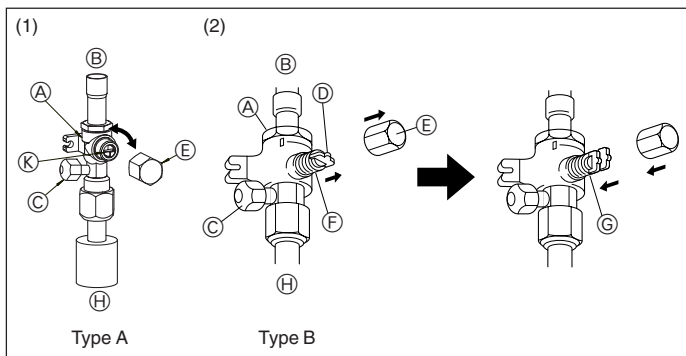
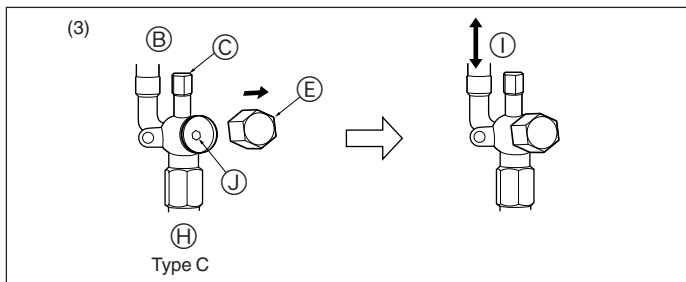

Fig. 5-7
Fig. 5-8
(1) Type A (Fig. 5-7)
- ① Remove the cap, then turn one-quarter rotation counter-clockwise with a flat-bladed screwdriver to complete open.
- ② Check that the valves are fully open, then return the cap to its original state and tighten it down.
(2) Type B (Fig. 5-7)
- ① Remove the cap, pull the handle toward you and rotate 1/4 turn in a counterclockwise direction to open.
- ② Make sure that the stop valve is open completely, push in the handle and rotate the cap back to its original position.
(3) Type C (Fig. 5-8)
- ① Remove the cap and turn the valve rod counterclockwise as far as it will go with the use of a 4 mm hexagonal wrench. Stop turning when it hits the stopper.
- ② Make sure that the stop valve is open completely and rotate the cap back to its original position.